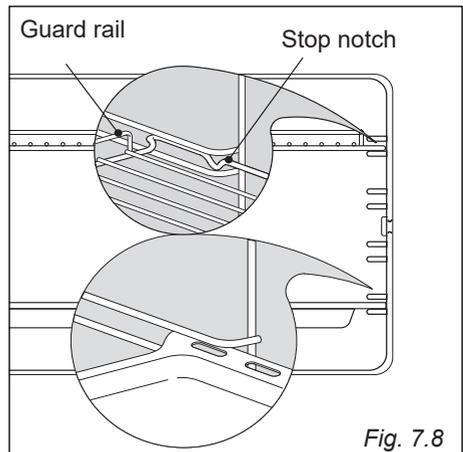

Fig. 7.8
- Slide in, on the guides, the shelf and the tray (figs. 7.8).